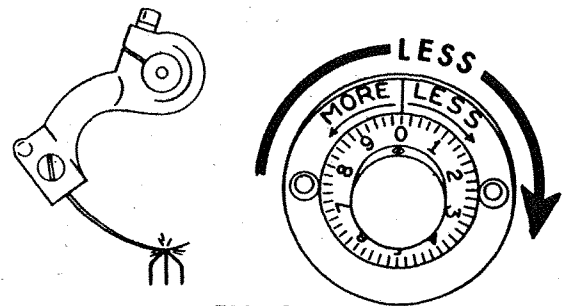

FIG. 3
4. If rib is pressing up against needle (Fig. 3), turn dial toward "LESS" until rib just touches needle.
1. Place good new needle in groove of presserfoot and hold in place with right index finger (Fig. 2). With tilting motion of right thumb (Fig. 3), tilt shank of needle to right in between Needle Clamp (B) and Needle Lever (C) and into groove of Needle Lever.